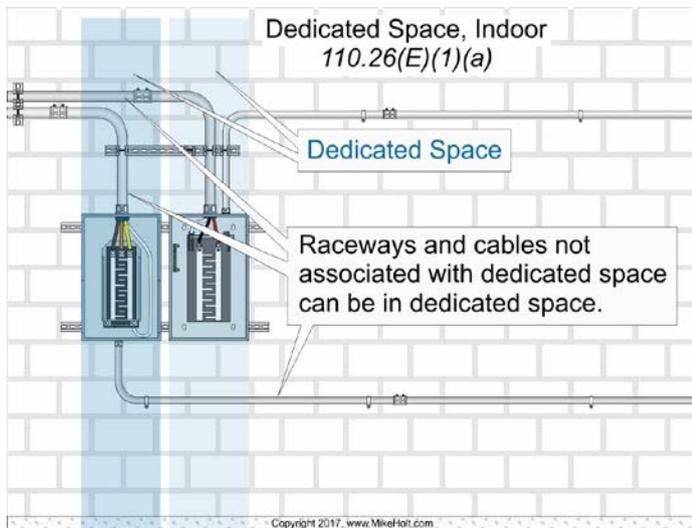

Figure 110-46
- Electrical raceways and cables not associated with the dedicated space can be within the dedicated space. These aren't considered "equipment foreign to the electrical installation." Figure 110-46